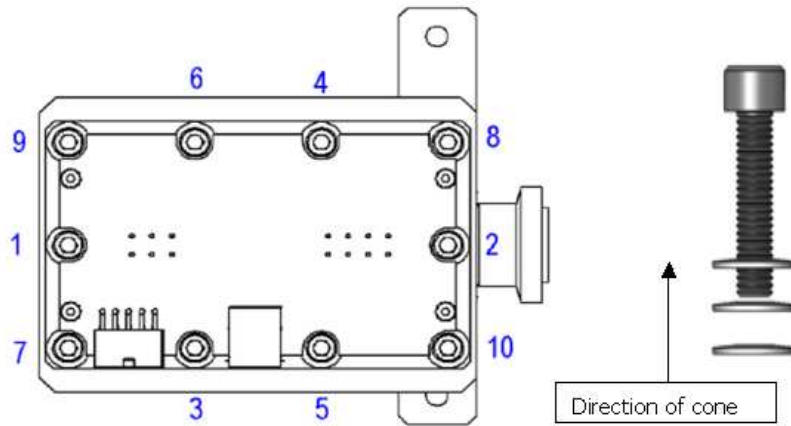

Figure 10: Direction of Cone
8. Loosen screws (item 1) and carefully remove the spectrometer header from the body. The vacuum system vents to atmosphere as the screws are loosened. Retain the socket head cap screws (item 1) and the Belleville washers (item 2). See line item 21 for correct orientation of the Belleville washers (Figure 10: Direction of Cone).
21. Insert a screw with three Belleville washers into each hole and finger tighten (Figure 10: Direction of Cone).
- 22. Following the pattern shown in Figure 10: Direction of Cone, torque screws to 40 in-lbs (4.5 N-m).
- 24. Wait a minimum of five minutes then torque the screws shown in pattern (Figure 10: Direction of Cone) to 90 in-lbs (10.2 N-m).